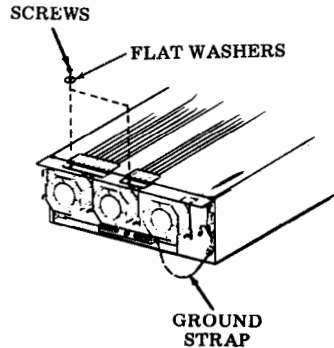

Fig. 55
Step 14 — Attach the braided ground strap to the slip-on terminal on the ventilation assembly (Fig. 55). Align controllers and tighten screws and flat washers retained in Steps 6 and 9.